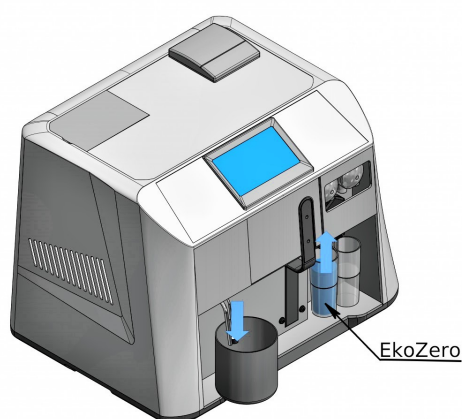

Figure 2: Cleaning
- place cleaning solution mug filled with EkoZero solution under the IR peristaltic pump (figure 2)
- after procedure finished, place cleaning solution mug filled with EkoZero solution under the IR peristaltic pump (figure 2)